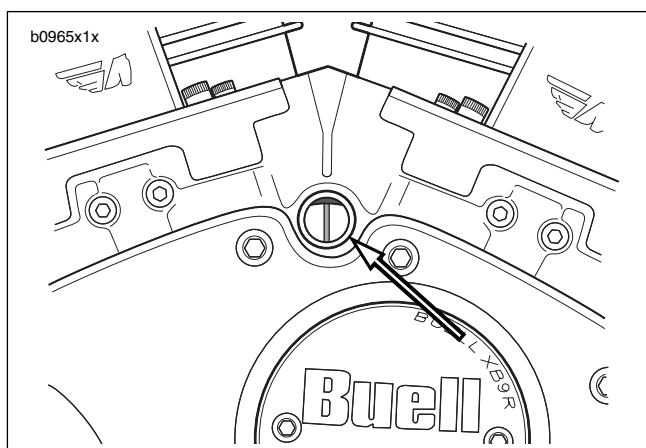

Figure 1-47. Correct Timing
- See Figure 1-47. If the static timing is correct, the screen will switch to HIGH - 5 volts at the precise moment the timing mark exactly centers in the inspection window.